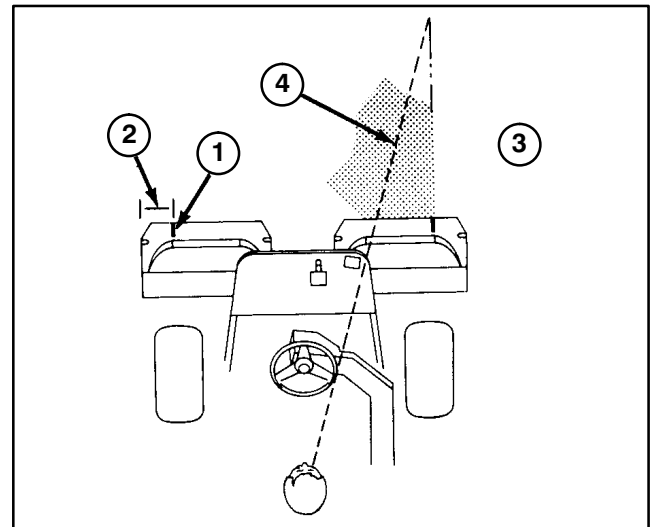

Figure 26
- Either place a strip of white tape or paint a line onto each basket paralleling the outer edge of each basket (Fig. 26)
3. Overlap a minimal amount with the previous cut on return passes. To assist in maintaining a straight line across the green and keep the machine an equal distance from the edge of the previous cut, establish an imaginary sight line approximately 6 to 10 feet ahead of the machine to the edge of the uncut portion of the green (Fig. 26 & 27). Some find it useful to include the outer edge of the steering wheel as part of the sight line; i.e. keep the steering wheel edge aligned with a point that is always kept the same distance away from the front of the machine (Fig. 26 & 27).